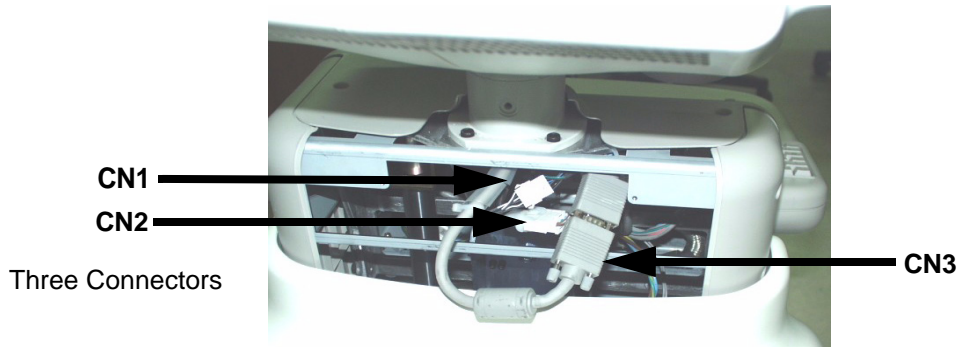

Figure 8-2 Disconnect three(3) connectors
3.) Remove 3Connectors (CN1 - CN3) from the Monitor. Refer to Figure 8-2.